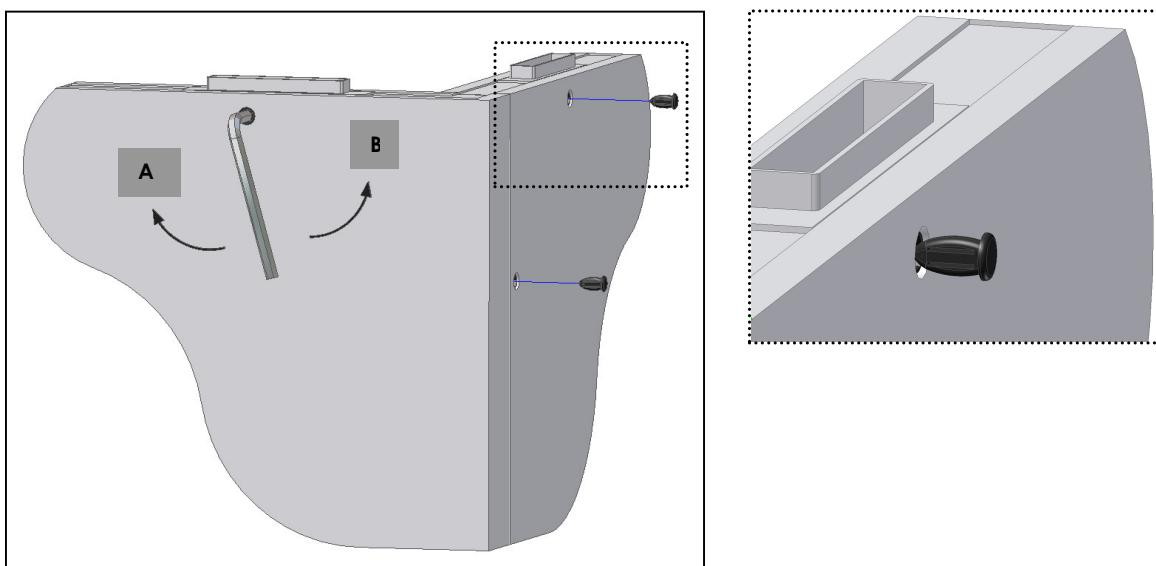

Fig. 11
- Turn the screwdriver like the hands of a clock till it stops. (Fig.11 – Position **A**);
- Turn the screwdriver on the other sense till it fastens. (Fig.11 – Position **B**)
➤ After fastening, insert the **covers** in the holes (Fig. 11).